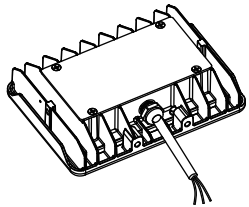

figure 3.1
Step 1: Take the lamp out of package;( figure 3.1)